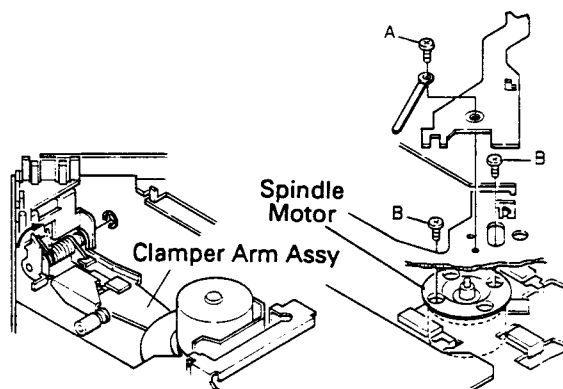

Fig. 3
5. Detach the washer and remove the spring. (Fig. 3)
6. Remove the clamber arm assy while slipping it off. (Fig. 3)
8. Remove screw A and detach the P.C. Board. (Fig. 3)
9. Remove two screws B and detach the spindle motor. (Fig. 3)